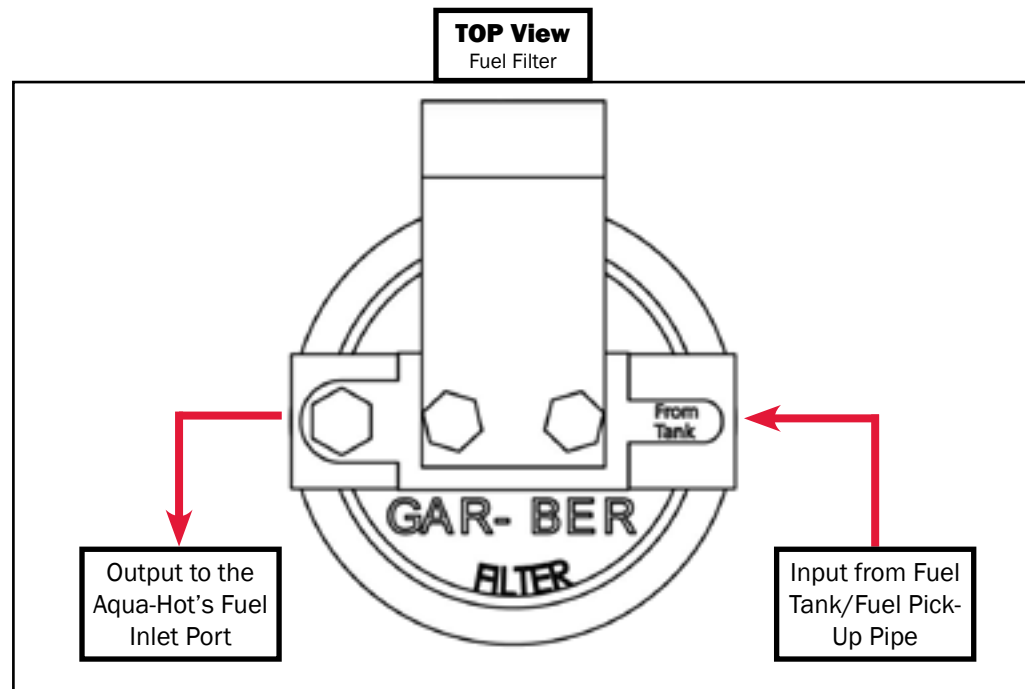

Figure 44
5. Install and tighten the appropriate fuel fittings onto the Aqua-Hot's fuel ports, as well as the two ports of the fuel filter. Reference Figure 44 & 45.
7. Cut the fuel line at the fuel filter mounting location and connect the fuel lines as illustrated in Figure 44.